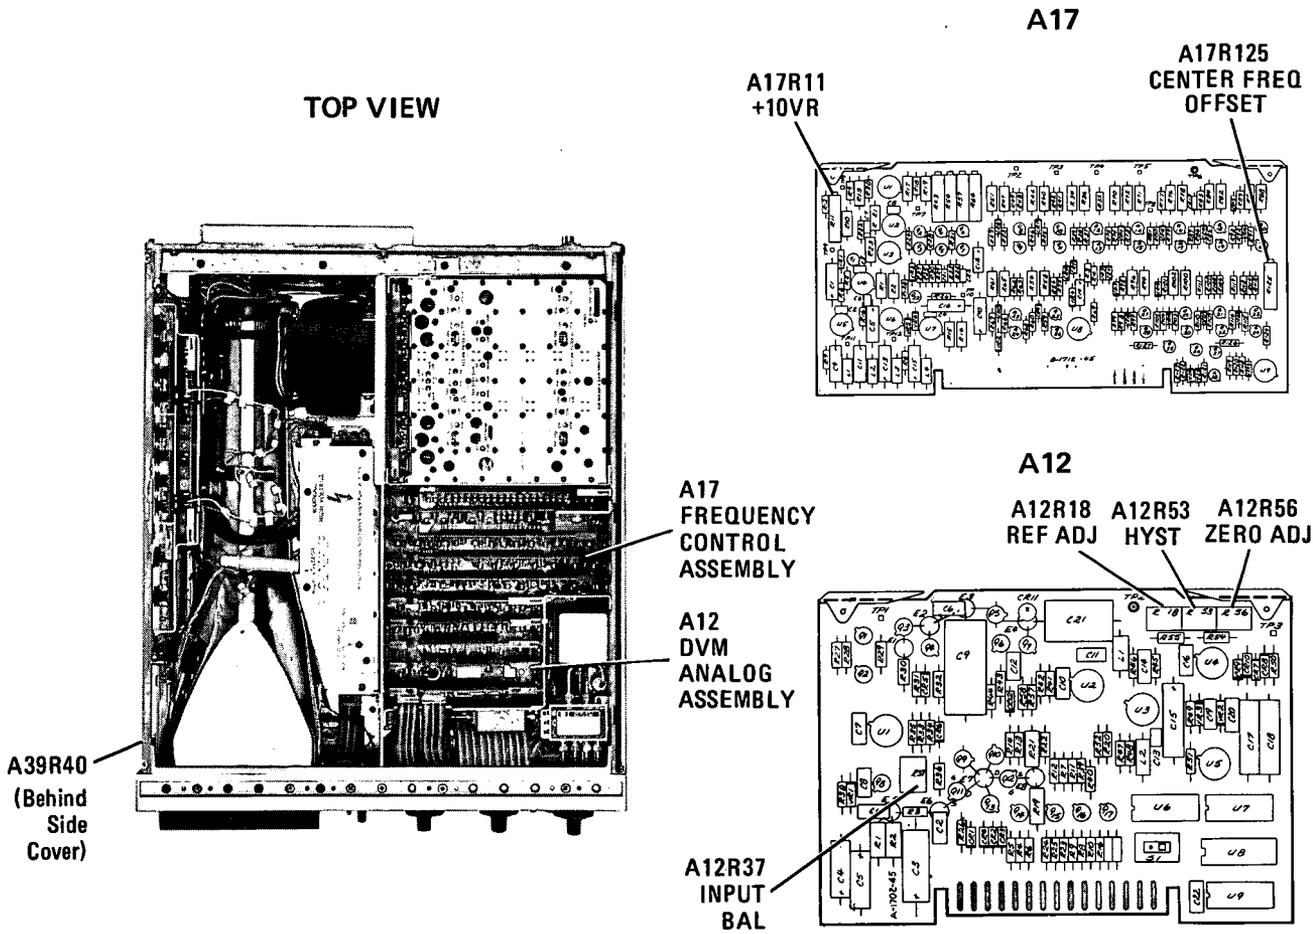

Figure 5-30. +10V Reference and Digital Readout Adjustment Locations
- c. Connect digital voltmeter to A17TP1 +10VR and adjust A17R11 +10VR (Figure 5-30) for $+10.0000V \pm 0.0002V$. If unable to adjust A17R11 for +10 V, change factory selected resistor A17R9*. Decrease in A17R9* decreases voltage.